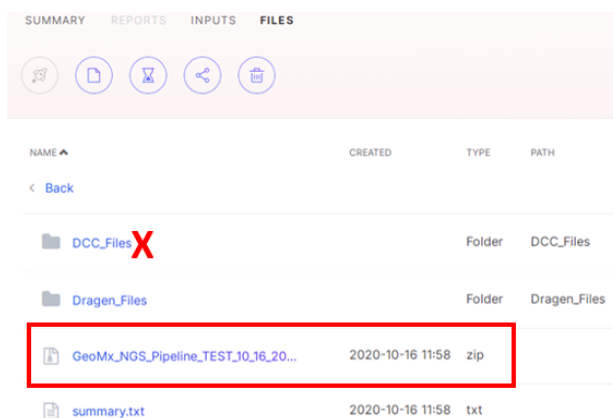

Figure 23: DCC.zip file output from GeoMx NGS Pipeline
- Open the folder **GeoMx_NGS_Pipeline**. Download the DCC.zip output with the **name: GeoMx_NGS_Pipeline_...** and **file type: zip** (see Figure 23). (Despite its name, the folder "DCC_Files" is not the zipped DCC output for download).